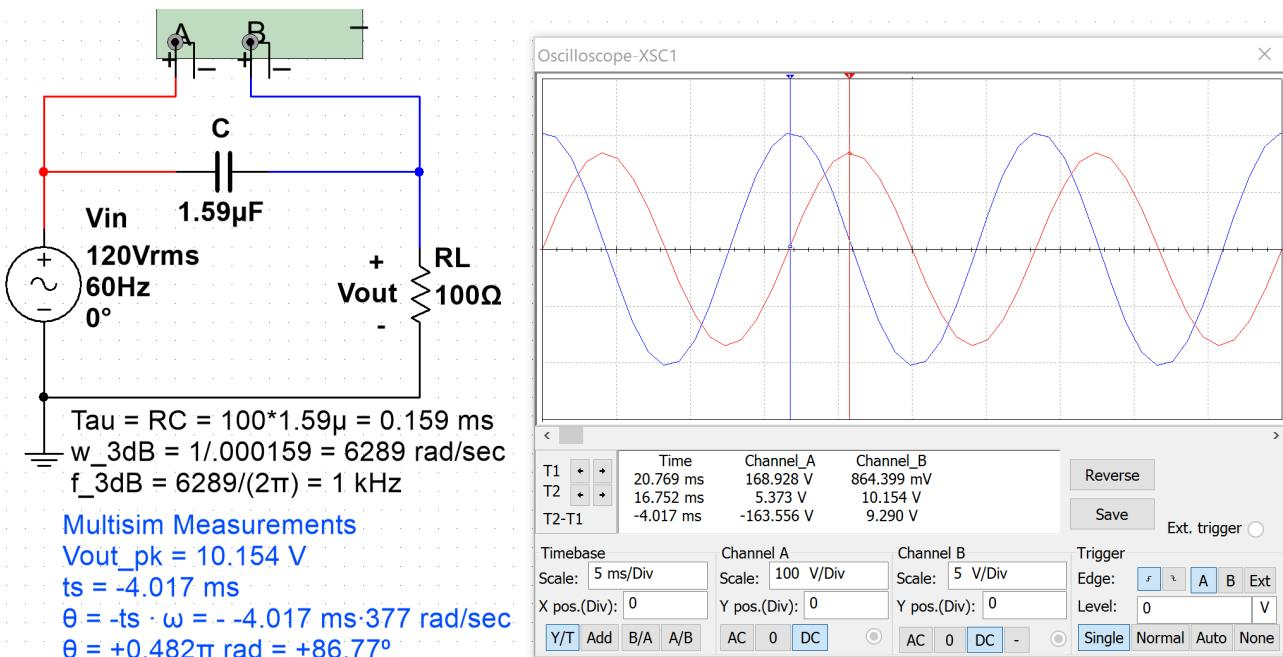

Figure 4.10: Multisim oscilloscope verification of Bode plot and calculated results of Example 4.2.
Using the Bode plot to determine the output signal is much easier than solving the problem algebraically. The following steps show how to solve this problem and the values are verified in the Multisim scope plot in Figure 4.10. The problem solving technique shown below is the same process that was performed in Section 3.2 - Series RLC Circuits. The Blue Font shows the Multisim measurements. Notice that they closely match the calculations.
- $Z_{Total} = RL - j X_C = 100 - j 1668.3 \quad Z_{Total} = 1671.3 \angle -86.57^\circ \Omega$ (ICE) (Notice: V_{RL} leads V_{in} in Figure 4.10)